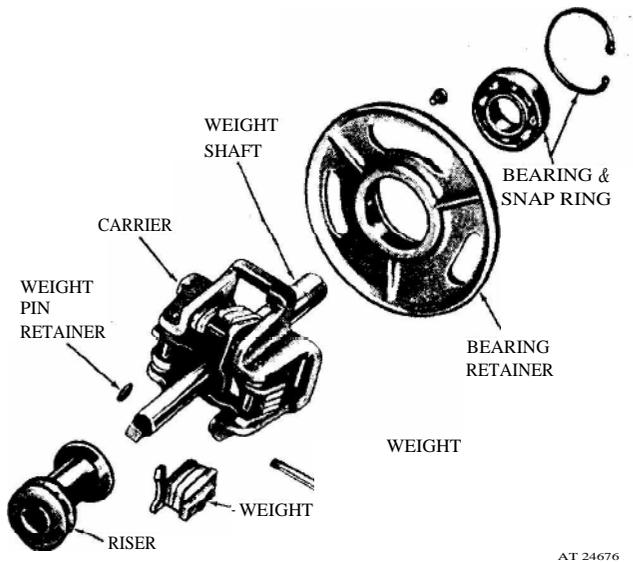

Figure 6. Governor weight details and relative location of parts.
2. Press the governor weight shaft hearing into the bearing retainer by pressing on the outer race of the bearing (fig. 6).